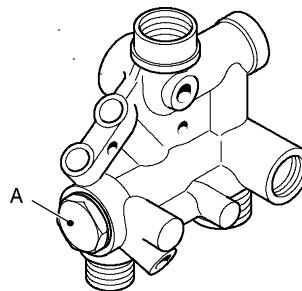

fig. 64
- 2 Unscrew the plug A (fig. 64) and extract the filter.